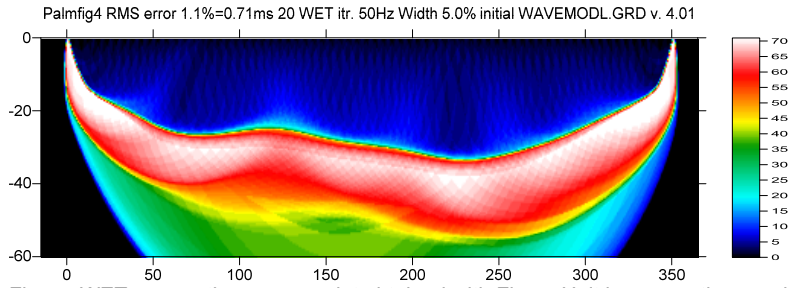

Fig. 7 : WET wavepath coverage plot obtained with Fig. 5. Unit is wavepaths per pixel.
- view resulting Smooth WET tomogram in Fig. 5 and WET coverage plot in Fig. 7.